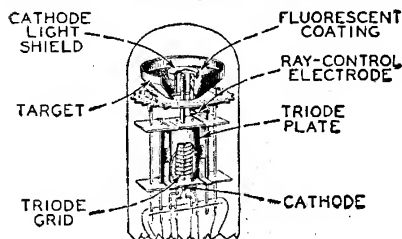

Fig. 64
Electron-ray tubes are designed to indicate visually by means of a fluorescent target the effects of a change in controlling voltage. One application of them is as tuning indicators in radio receivers. Types such as the 6U5, 6E5, and the 6AB5/6N5 contain two main parts: (1) a triode which operates as a dc amplifier and (2) an electron-ray indicator which is located in the bulb as shown in Fig. 64. The target is operated at a positive voltage and, therefore, attracts electrons from the cathode. When